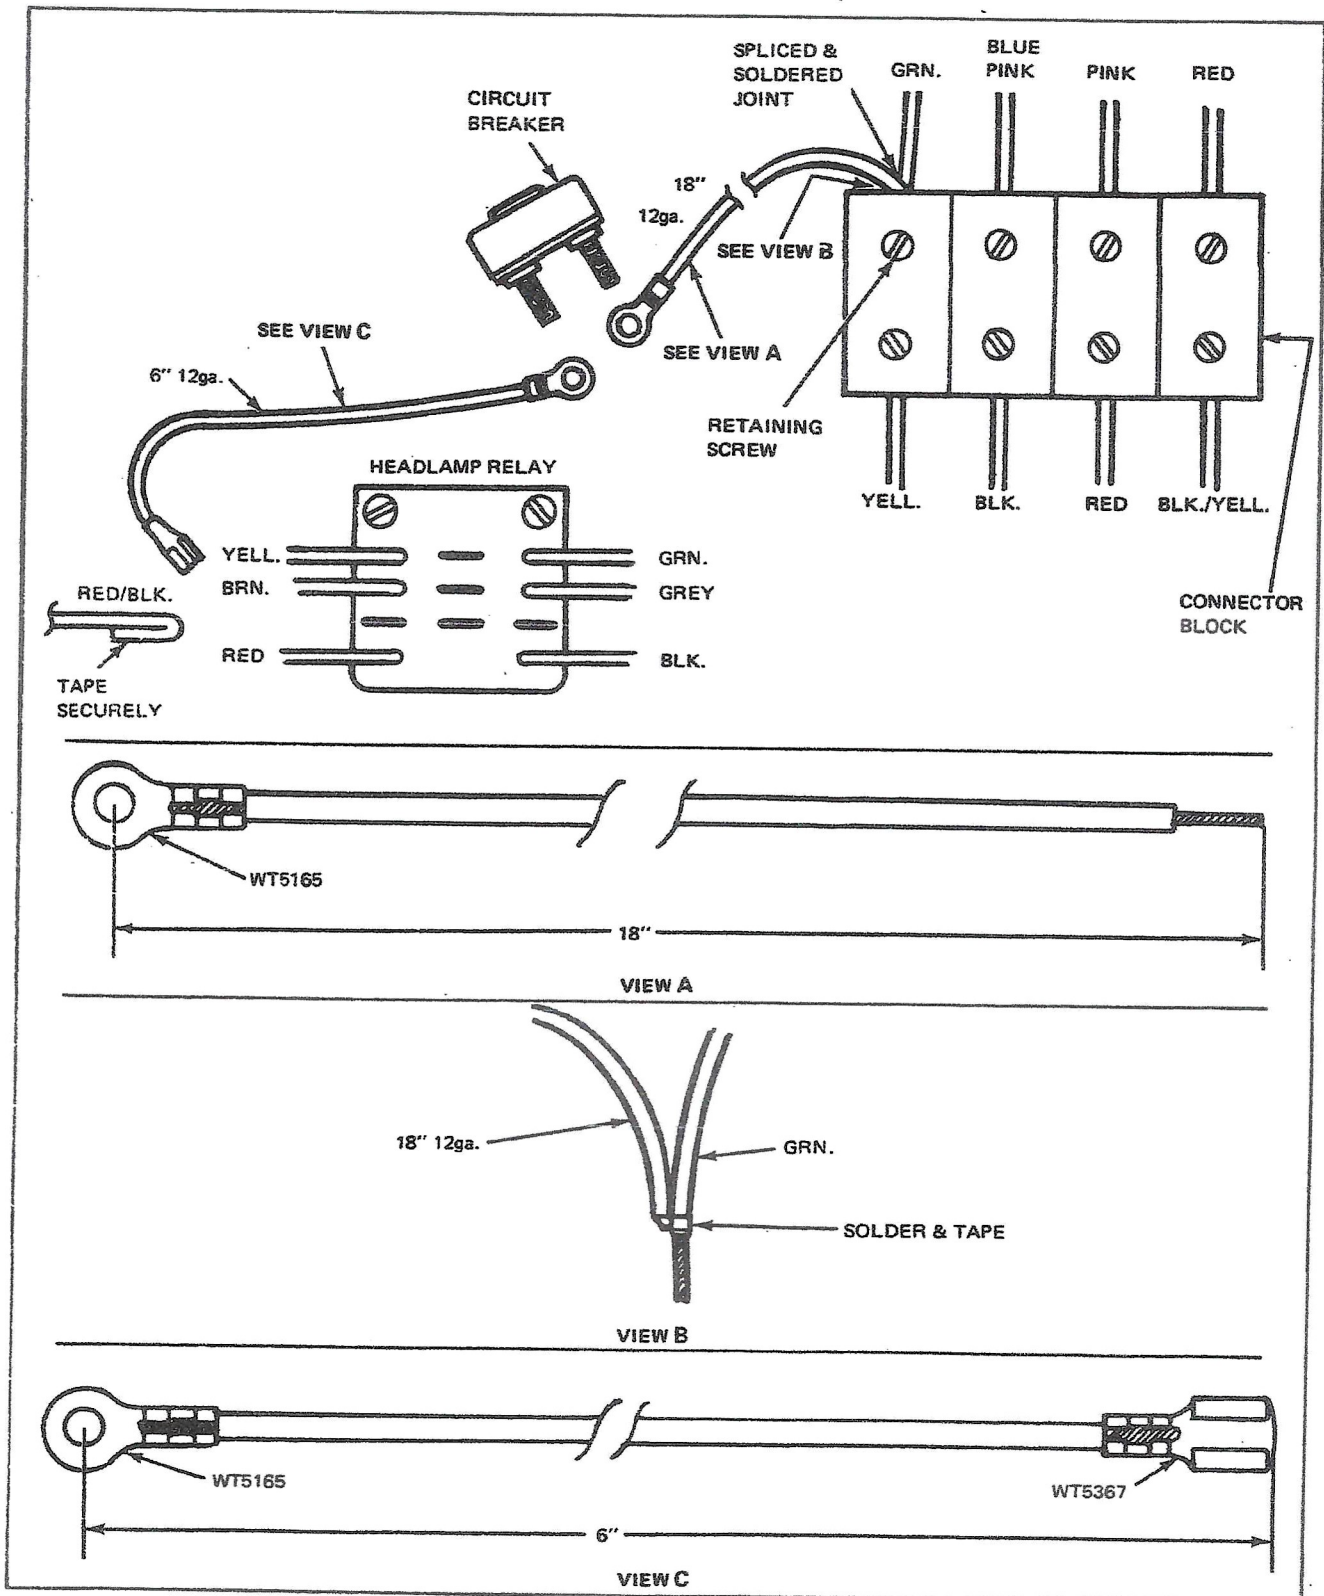

Fig. 16 - Article No. 116
42. Fabricate piece of 12 gauge wire 6 inches long. Crimp and solder eyelet terminal to one end and female terminal to the other end. (See Fig. 16 - View C).
43. Attach eyelet terminal to other post on circuit breaker and install No. 10-24 nut. (See Fig. 16) Using electrical tape, carefully wrap wires and circuit breaker terminals.